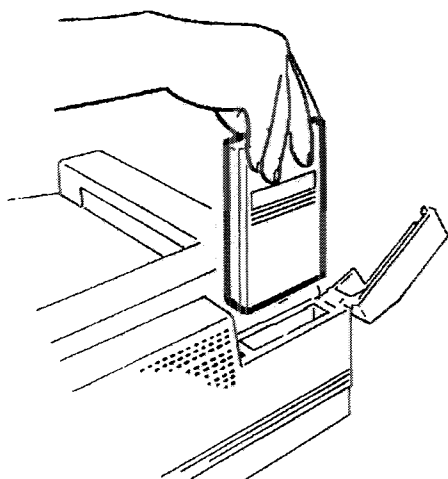

Figure 1. Cartridge removal
2. (Figure 1) Open the font cartridge cover and remove the page description language cartridge.